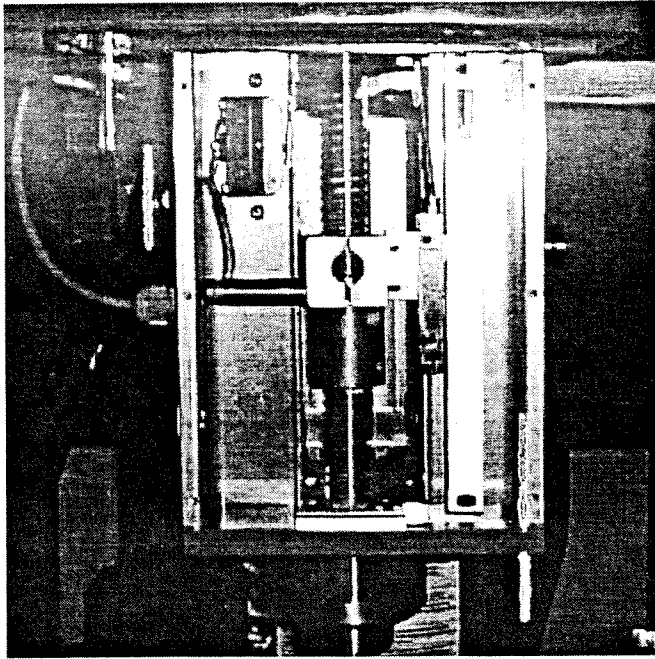

Figure 9
36. Fasten it to the head using (4) 10-24 x 1 1/4" SHCS and hard washers supplied.
37. Fasten the left brace to the top housing using the (2) 5/16-18 x 1 1/4" SHCS and washers supplied. Fasten the screws from inside the top housing into the brace.
39. Place the Acu-Rite scale on the inside of the lower assembly on the face of the right angle. This is accomplished using the spacer blocks on each end of the scale with the relief on the top block to the outside and to the top. This clears the window in the bottom of the top housing. Loosely fasten the two ends of the scale using the (2) 6-32 x 1" SHCS supplied for now. **See Figure 9.**
41. Fasten the reader head mount to the ball nut block using (2) 10-32 x 1/2" supplied.
58. Rotate the pulley by hand until the ball nut is at the top position and place the limit switch assembly on the inside face of the left angle. Slide it so the switch trips at this position. Precise actuation can be obtained by hearing the switch trip or by using an OHM meter to detect tripping. See Figure 9 for limit switch placement.
59. Fasten securely using the (2) 8-32 x 1/2" SHCS supplied.
70. Place the Nema adapter plate on the Servo motor and fasten using the (4) 5/16-24 x 5/8" supplied.
71. Fasten the Nema plate and motor assembly to the motor plate using (4) 1/4-20 x 1 1/2" SHCS and nuts. The nuts are placed in the 7/16 wide slots in the bottom of the motor plate and the screws are placed in